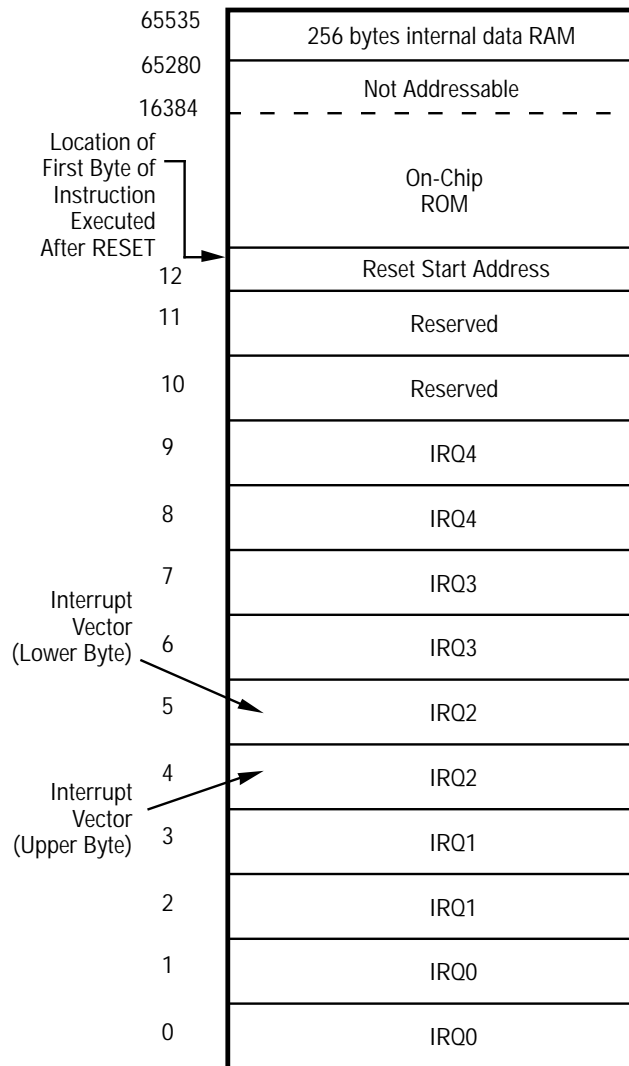

Figure 14. Program Memory Map
**Program Memory.** The Z86L78 addresses up to 16 KB of internal program memory (Figure 14). The first 12 bytes of program memory are reserved for the interrupt vectors. These locations contain five 16-bit vectors that correspond to the five available interrupts. Addresses to 16K consist of on-chip mask-programmed ROM.